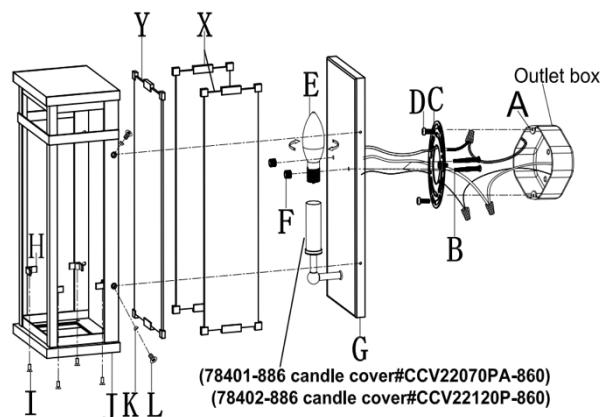

Fig. 2
CONNECTING THE WIRES (Fig. 2).
7. Connect the electrical wires as shown in Fig.2. Making sure that all wire connectors are secured. If your outlet box (A) has a ground wire (green or bare copper), connect fixture's ground wire to it. Otherwise, connect fixture's ground wire directly to the mounting plate (C) using green screw provided.